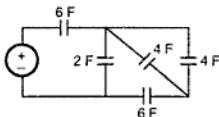

Fig. 2.37
26. Determine the equivalent capacitance of the combination shown in Fig. 2.37. (Ans. : 2.85 F)